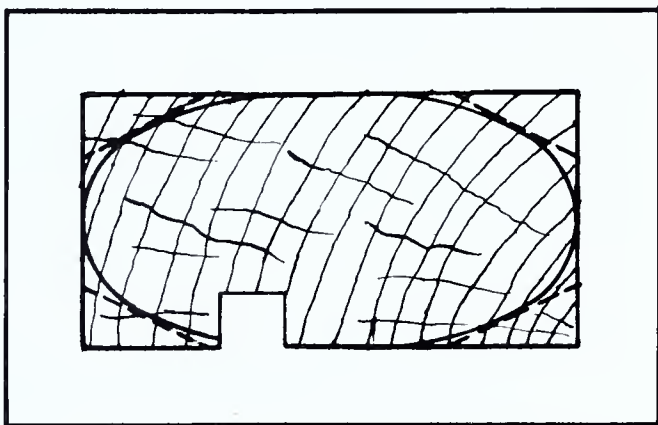

FIG. 130 — *End View of a Piece of Wood to be Shaped for a Hand Rail*
5. Rough-cut the corners of the rail to the template mark as shown in Fig. 130.